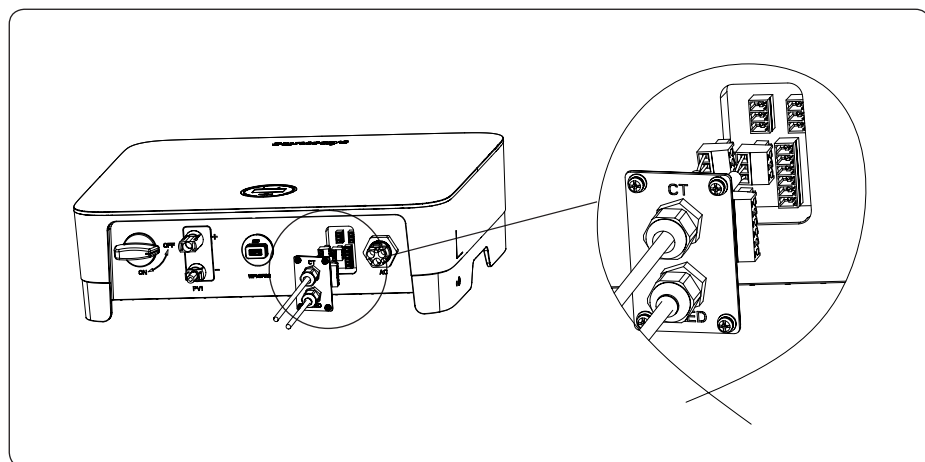

Figure 4-23
- 4) Insert the 3/6pin connector into the 3/6pin connector inside the inverter, and screw the CT/DRED plate back with a cross screwdriver, as shown in Figure 4-23: